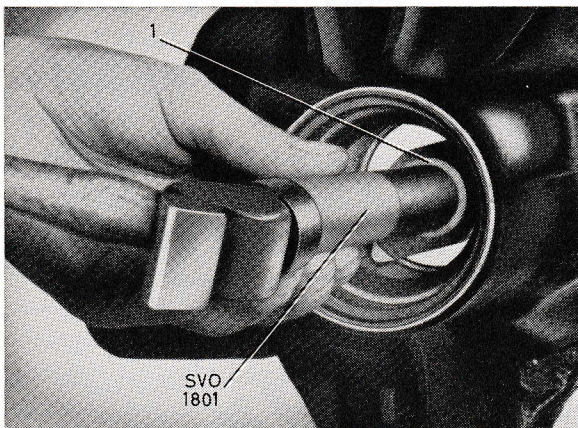

Fig. 24. Removing the bearing ring.
10. Drive out the bearing outer rings if required, see Fig. 24. Use the standard handle SVO 1801 and the drift SVO 4064 for the forward ring and SVO 2207 for the rear ring. Be careful not to lose the shims (25) under the rear ring.